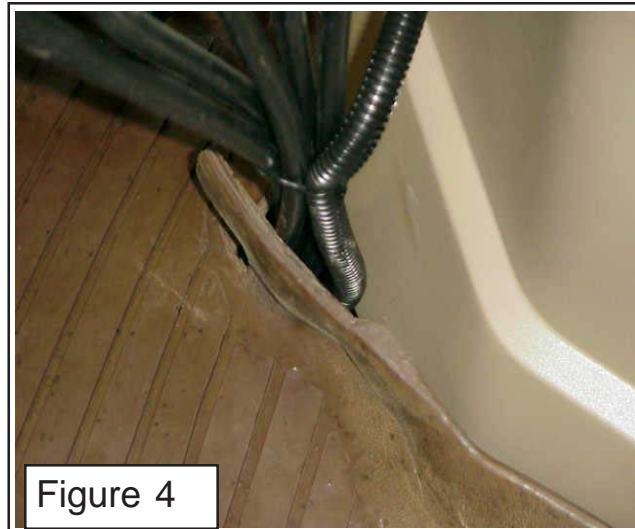
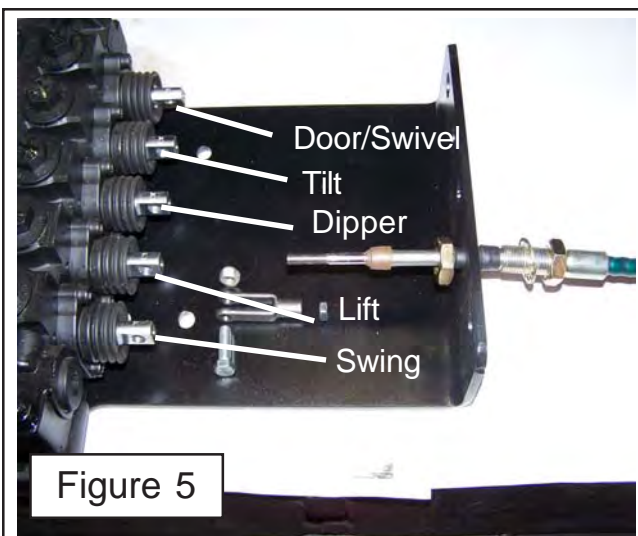
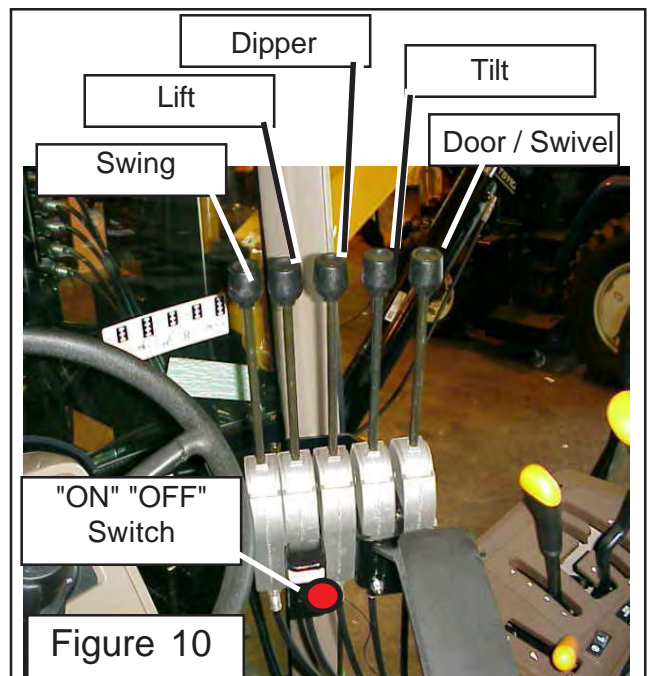

Figure 4
Figure 5
Figure 10
6. Cable Clevis Installation. Screw the cable clevis (item 7) onto the threaded cable (item 5) until the threads are fully engaged into the clevis. If the locking nut (item 6) needs to be run further onto cable, this is OK.
7. Connect Cable Clevis to Valve Spool. The cable clevis (item 7) is retained to the valve spool (item 10) with a bolt & locknut (item 8 & 9). The valve spool will have a hole in it and two flat side for the clevis to slide onto. Slide the clevis onto valve spool until the holes in clevis align with the hole in the valve spool. Install the clevis retaining bolt & locknut, but do not tighten them at this time. Continue this with the other four cables.
8. Mark Cables For Identification. The cable will be run up through the floor of the tractor (See Figure 4 as an Example, actual routing may vary). It is recommended that the ends of the cables be marked before this is done to track which cable is which control function. Cable need to be marked as shown from left to right (See Figure 5).
11. Stack Control Handles. Each cable control handle will attach to the cable in the same way. The control handles will be stacked together in the proper order (See Figure 5 & 10). These control handles will be stacked with the mounting brackets and electrical switch brackets between them. Where the brackets are located in the group can vary. Shown in figure 10 is the recommended placement of these brackets. The bracket that mounts the control handles is slotted to allow for the adjustment of the angle of the control handle assemblies.
12. The "ON" / "OFF" Switch is bolted to the Control Handles. This is a good place but can be mounted somewhere else is desired. If Mounted somewhere else keep in mind it must be accessible quickly by the operator in case of emergency needs. (See Figure 10)